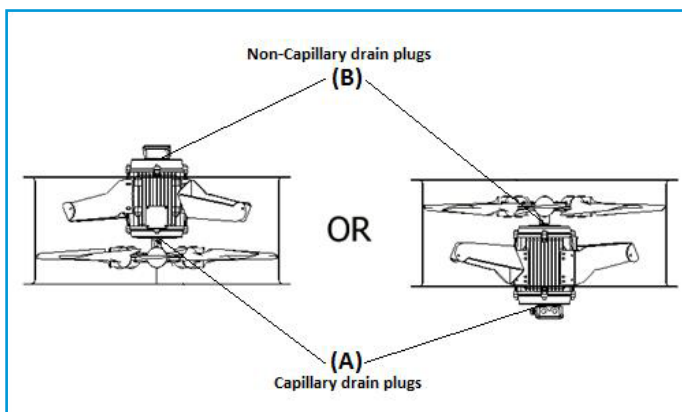

Figure 3. Vertical mounted axial fans.
With vertically mounted axial fans (as per figure 3).
- The drain hole positioned at the lowest part on the motor (A) (figure 3) should be fitted with a capillary drain plug (shown in figure 4).
- The drain hole that is positioned at the highest point on the motor (B) (figure 3) should be fitted with a standard (non-capillary) drain plug (shown in figure 5).